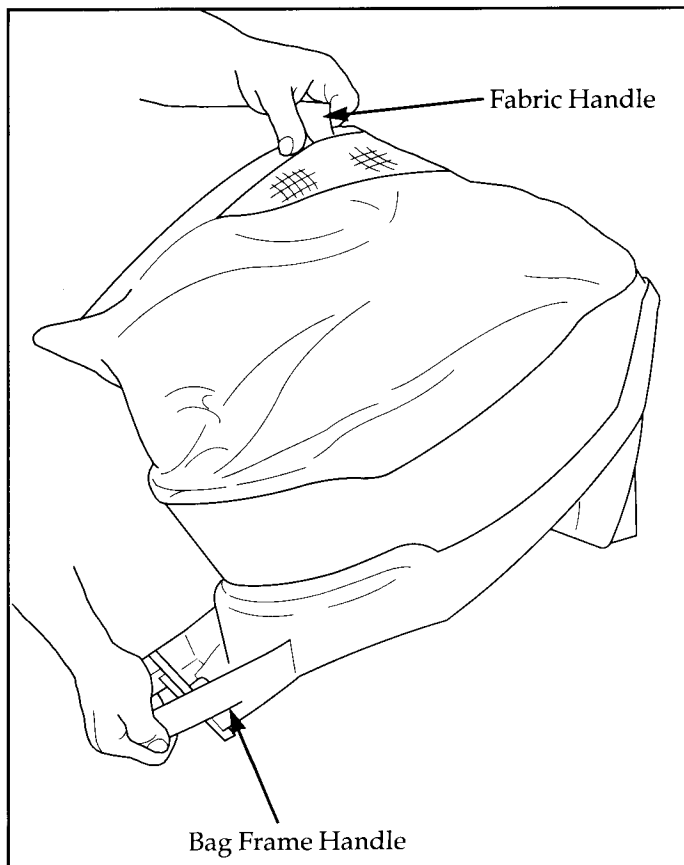

Figure 15
2. Empty debris bag holding the bag frame handle at the top of the bag and the fabric handle at the bottom of the bag. Figure 15.